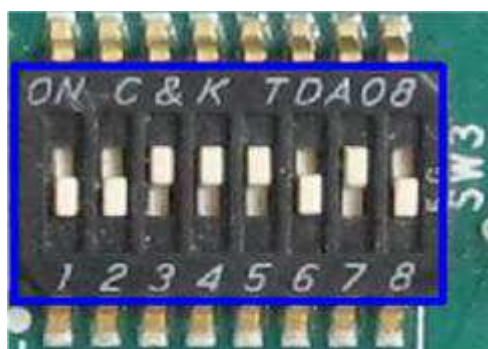

Figure 2-3 JTAG Enable for Arria10 SoC board
- b) For Arria10 SoC, set SW3[1]/[2]/[6]/[8] = OFF position to enable JTAG of HPS, FPGA, and MAX, as shown in Figure 2-3